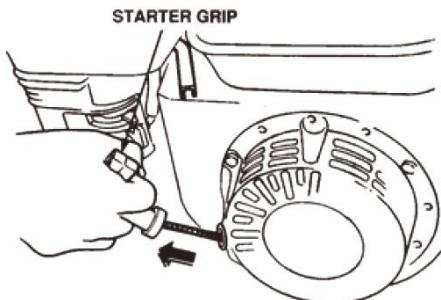

FIG.10
- 9.6 Grasp the starter grip (FIG. 10) and slowly pull it out. The resistance